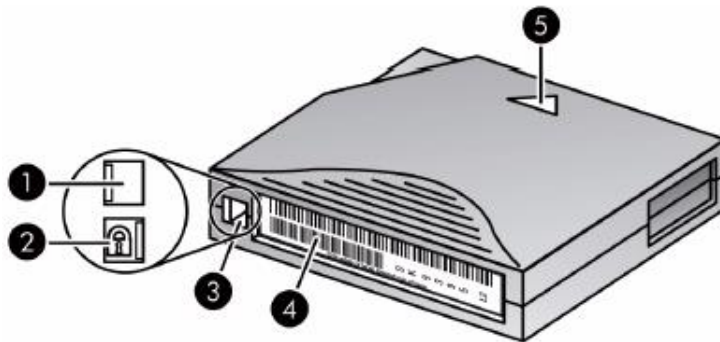

Figure 29 Write protecting the Ultrium data cartridge
- Slide the switch to the right to write-protect the cartridge. A small pad-lock is visible indicating that the cartridge is write-protected (see Figure 29).
- Slide the switch to the left to allow the Library to write data to the cartridge (see Figure 29).